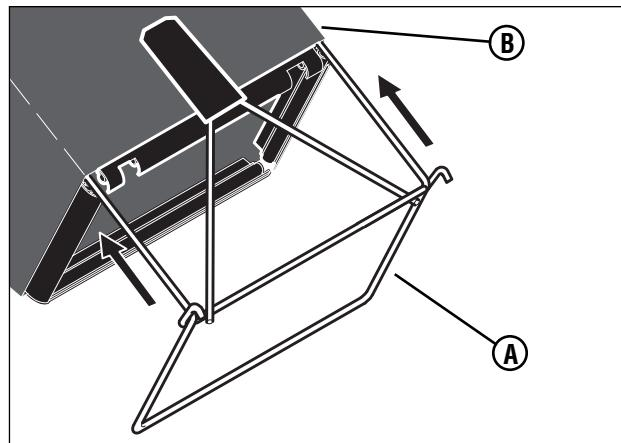

Figure 5: Installing the frame assembly
1. Slide the frame assembly (**A**, **Figure 5**) into the grass bag (**B**).